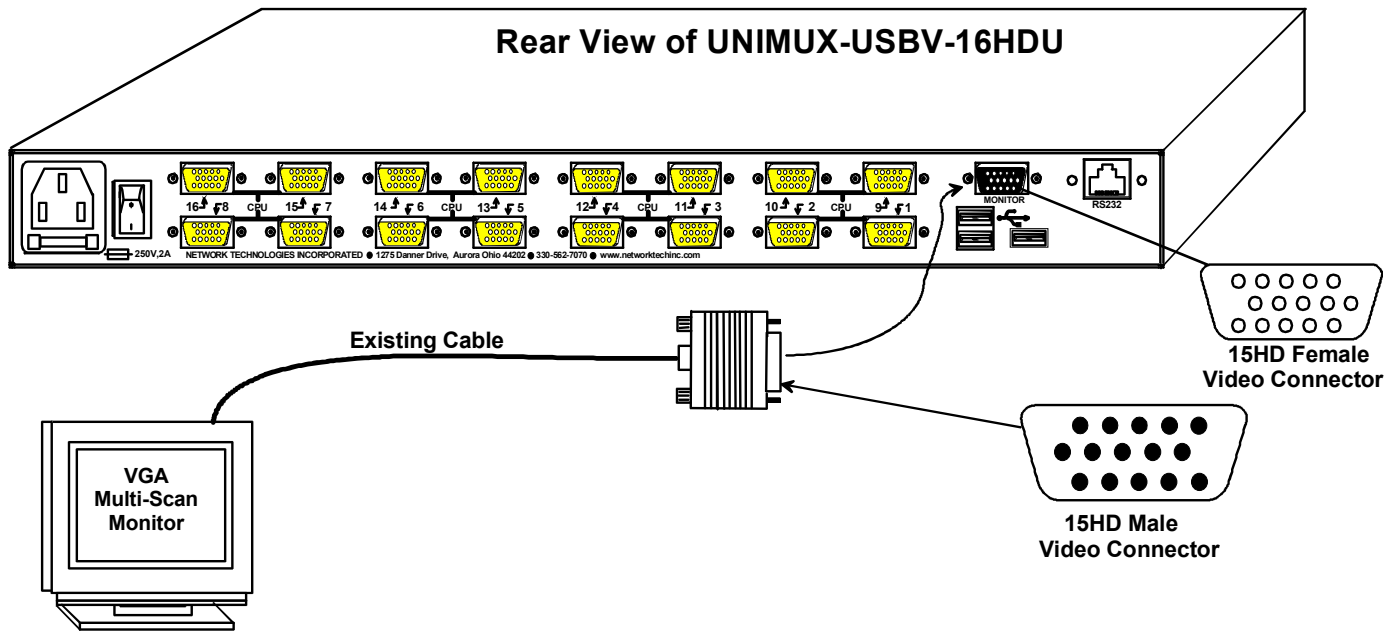

Figure 3- Install user monitor
1. Connect the 15HD male cable end from the user monitor to the female black 15HD port marked "MONITOR x" on the rear of the UNIMUX switch (see Figure 3). If a touch screen monitor is being connected (models with touch screen support only), connect the USB cable from the monitor to any one of the USB type A connectors in the same user device port group (see Figure 4).